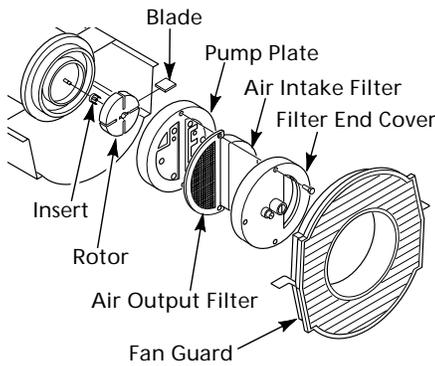

Figure 24 - Rotor Location, Models 2E510E and 2E511E
2. Remove filter end cover screws using 5/16" nut-driver (See Figures 24 and 25).